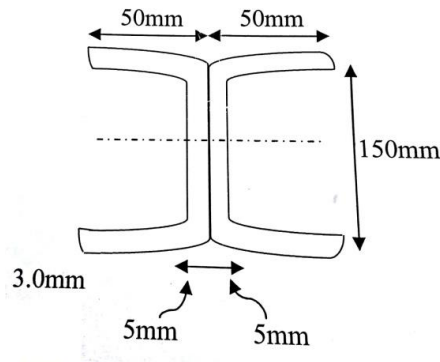

Figure 4
5. Two channel sections without bent lips 150 mm x 50 mm as shown in Figure 4 are connected with webs to act as a beam. The thickness of channel is 3.0 mm. The effective span of simply supported beam is 5.0 m. Determine the maximum uniformly distributed load inclusive of self weight. Which can be supported by the beam. The beam is laterally supported throughout the span. [12M]